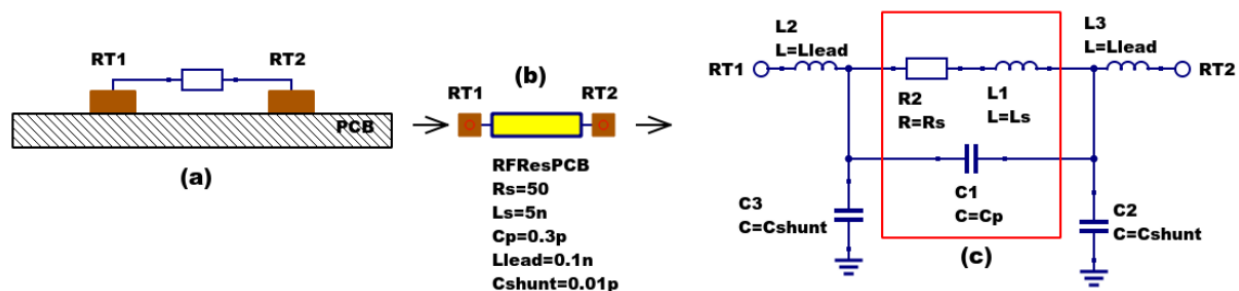

Figure 2 - PCB mounted resistor: (a) axial component mounting, (b) Qucs symbol and (c) equivalent circuit model.
The schematic symbol, I/V equation and parameters of the Qucs linear resistor model are shown in Figure 1. In contrast to this model Figure 2 illustrates the structure of a printed circuit board (PCB) mounted metal film (MF) axial RF resistor (a), its Qucs schematic symbol (b) and its equivalent circuit model (c). A thin film surface mounted (SMD) resistor can also be represented by the model shown in Figure 2 (c).
At signal frequencies where the largest dimension of an axial or SMD resistor is less than approximately 20 times the smallest signal wavelength a resistor can be modelled by a lumped passive circuit consisting of a resistor **Rs** in series with a small inductance **Ls** with the combination shunted by parasitic capacitor **Cp**. In Figure 2 **Rs** is the nominal value of resistor at its parameter extraction temperature **Tnom**, **Ls** represents the inductance associated with **Rs** where the value of **Ls** is largely determined by the trimming method employed during component manufacture to set the value of **Rs** to a specified tolerance. Similarly, capacitor **Cp** models a parasitic capacitance associated with **Rs** where the value of **Cp** is a function of the physical size of **Rs**. At RF frequencies it is important, for accurate operation, to add lead parasitic elements to the intrinsic equivalent circuit model shown within the red box draw in Figure 2. In Figure 2 **Llead** and **Cshunt** represent resistor series lead inductance and shunt capacitance to ground respectively.
A typical set of model parameters for a  $51 \Omega$  5 % MF axial resistor are (1) **Ls = 8nH**, **Cp = 1pF**, **Llead = 1nH** and **Cshunt = 0.1pF**. Illustrated in Figure 3 is a basic S parameter test bench circuit for measuring the S parameters of an RF resistor over a frequency range 1 MHz to 1.3 GHz. This example also demonstrates how the real and imaginary parts of a resistor model impedance can be extracted from S parameter simulation data. The graphs in Figure 3 clearly demonstrate that the impedance of the typical MF RF resistor described in previous text and modelled by the equivalent circuit shown in Figure 2 is a strong function of frequency at higher frequencies in the band 1 MHz to 1.3 GHz.
Figure 8 - Qucs device model parameter extraction system applied to a nominal 47  $\Omega$  resistor represented by the subcircuit model illustrated in Figure 2 (c). Fixed model parameter values:  $R_s = R_m = 47.3 \Omega$ ,  $C_{shunt} = 0.08 \text{ pF}$ ; Optimised values:  $L_s = L = 10.43 \text{ nH}$ ,  $L_{lead} = LL = 1.47 \text{ nH}$ ,  $C_p = C = 0.69 \text{ pF}$ . To reduce simulation time the ASCO cost variance was set to 1e-3. The ASCO method was set to DE/best/1/exp.
Figure 11 - Qucs device model parameter extraction system applied to a nominal 1000  $\Omega$  resistor represented by the subcircuit model illustrated in Figure 2(c).
Figure 13 - Qucs device model parameter extraction system applied to a nominal  $100 \Omega$  SMD resistor represented by the subcircuit model illustrated in Figure 2 (c).
Listed below is an example Verilog-A code model for the RF resistor model introduced in Figure 2 (c). Due to the limitations of the Verilog-A language subset provided by version 2.3.4 of the "Analogue Device Model Synthesizer" (ADMS)4 inductors  $L_s$  and  $L_{lead}$  are modelled by gyrators and capacitors with values identical to  $L_s$  or  $L_{lead}$ .